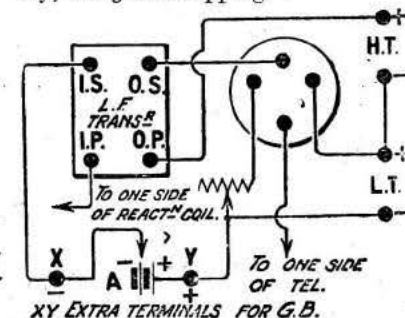

Fig. 3.—Showing how the extra terminals are to be joined in circuit.
Assuming that these two terminals have been fitted, and usually there is at least *one* place where they may be added, the connections on the under side of the panel are as shown in Fig. 3, X and Y representing the extra terminals. When the wiring has been completed it should be noted which terminal goes to the L.T. negative (Y in Fig. 3), and the terminal should be marked "plus" on the upper side of the panel; similarly the other terminal (X) may be marked negative or "minus." With this work completed we may replace the panel upon the box, make all exter-